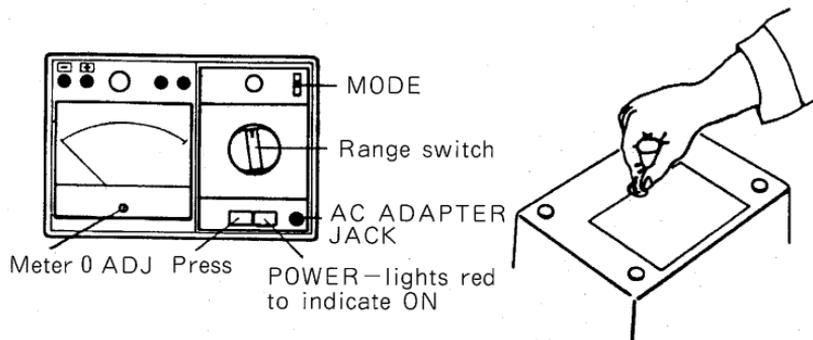

Figure. 6.1 Battery Replacement
- If the pointer fails to reach the BATT OK zone, the batteries require replacement. This may be accomplished by using coin to loosen the battery cover screw and replacing the batteries inside, observing the correct pole polarity. The instrument uses four R14P battery. (Refer to Figure 6.1)